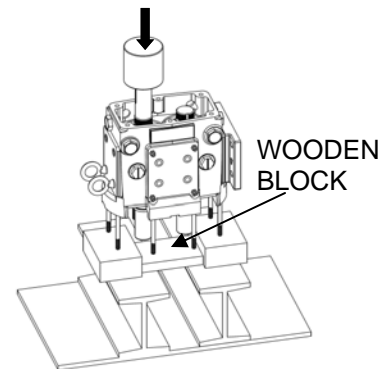

Figure 48: Pressing Shafts From Gear Case
4) Set the gear case in a press with the fluid end side facing down (Figure 48). Use a wooden block to protect the shafts from hitting the ground when pushed out. Once the protective block is in place, push the shafts out of the gear case. Reference Table 6 for the required force (in tons) needed to press the shafts out of the gear case.